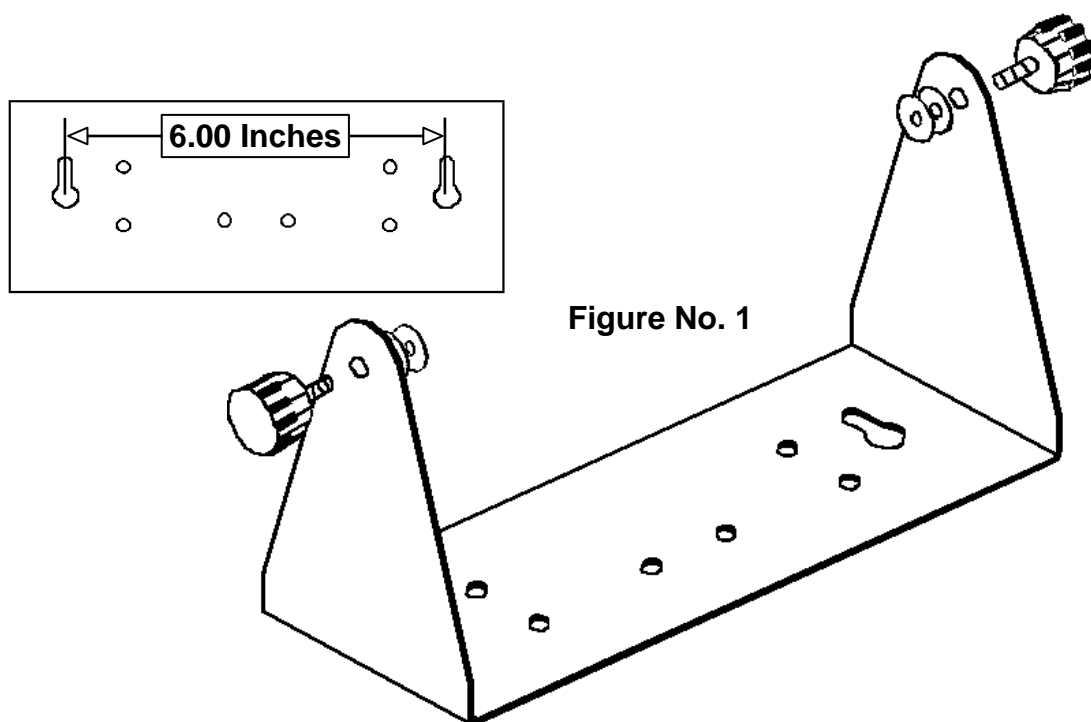

Figure No. 1
The Model 204 Weight Indicator may come mounted on a column or it may be mounted on a desktop or other smooth, flat, horizontal surface or it may be mounted on a wall using two (2) #10 screws placed 6.00 inches apart on the wall. Refer to Figure No. 1 for illustrations of the mounting bracket. This bracket may be removed or left in place for desktop use.